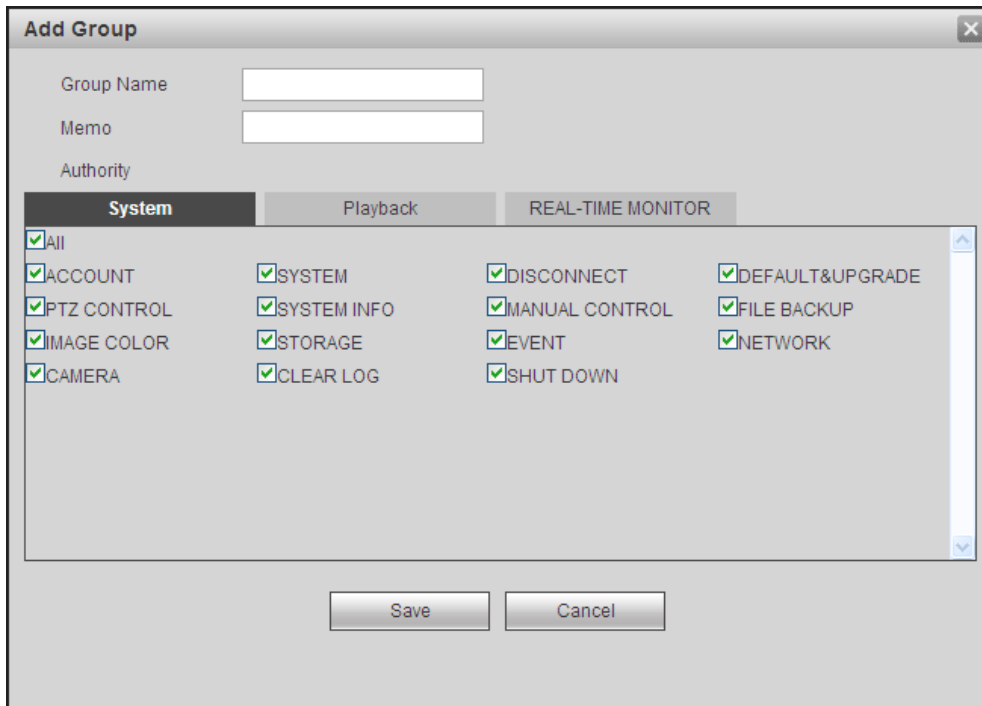

Figure 5-132
**Add group:** It is to add group and set its corresponding rights. See Figure 5-132.